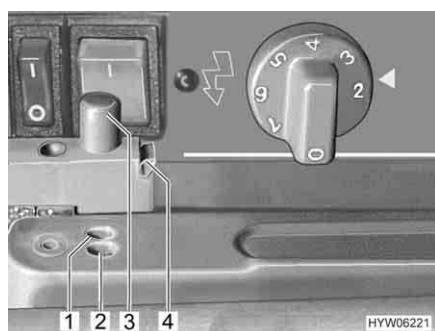

Fig. 62 Lock on refrigerator door
- Push the green retainer lock (Fig. 62,4) to the side to release the locking device. The bolt (Fig. 62,3) will trip.
- Press the bolt (Fig. 62,3) down, so that it engages in the outer drilled hole (Fig. 62,2).
- Press the bolt (Fig. 62,3) down, so that it engages in the inner drilled hole (Fig. 62,1). The refrigerator door will then stay slightly open.